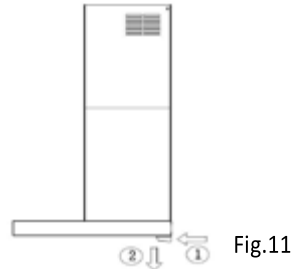

Fig.11
- Oil collector removing reference drawing steps (Fig.11)